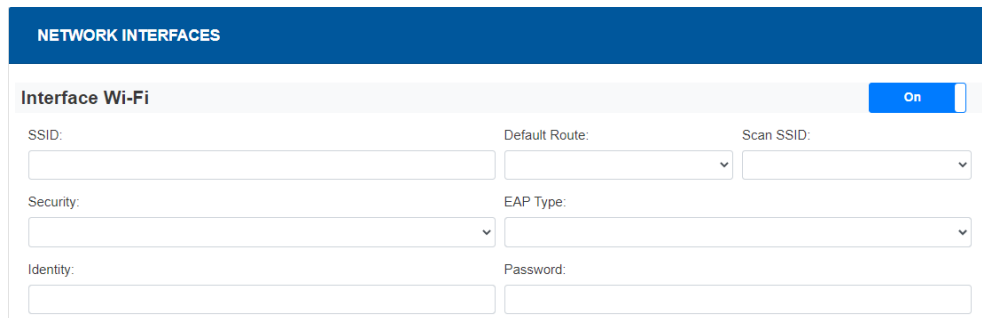

Figure 6.9: Wi-Fi network internet configuration
Step 6 Make the settings for the connection to the Wi-Fi internet network, as shown in Figure 6.9: